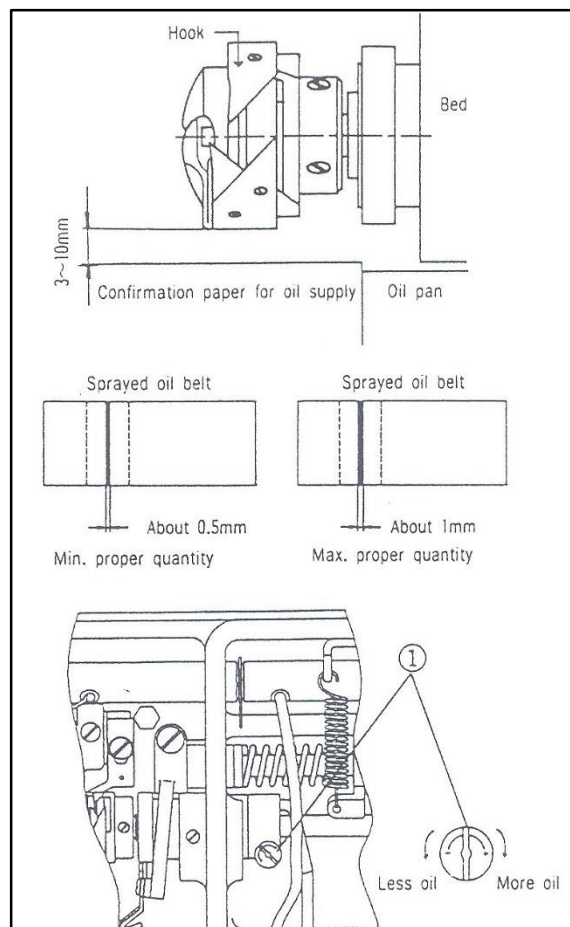

Figure 7.4
1. Run the sewing machine on full speed for 3 minutes. Place a piece of paper in position as shown in Fig. 7.4, and run machine for a further 5 seconds. The amount of oil being supplied can now be seen.
2. Repeat this process a further 3 times making sure the oil being supplied is within the limits shown in Fig 7.4. Too much oil could stain the material being sewn. Too little can cause the hook to seize.
Turning the adjusting screw clockwise, as shown in Fig. 7.4, will Increase the oil flow, turning the screw counter clockwise will Decrease the oil flow.